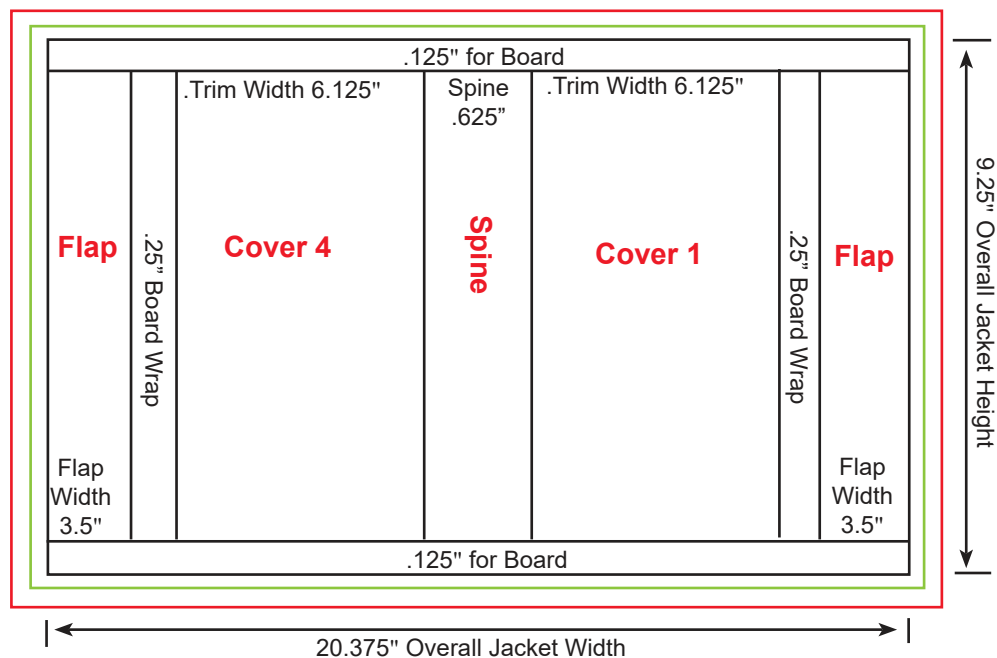

Figure 6
- File must be created in a spread format with adequate spine bulk assigned. Contact your CSR for a specifically measured layout to setup a dust jacket file. (See Figure 6)
- File spreads must be setup in Landscape. (See Figure 6)
- PDF Trim Box height must be 1/4" larger than text trim page height. The trim width will include board wraps, flap widths and spine wrap. Contact your CSR for a specifically measured layout. (See Figure 6)
- Any bleed elements must extend 1/8" past the trim box. (See Figure 6)
- Media box must be set at least 1/4" larger than the trim box. (See Figure 6)